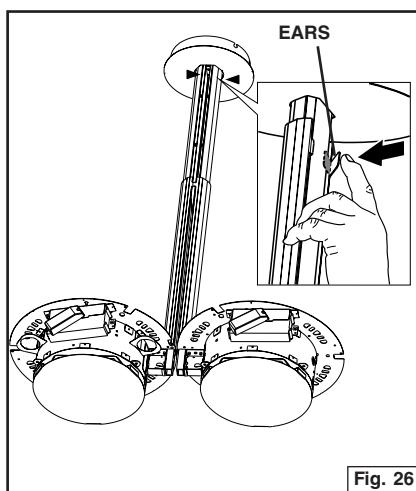

Fig. 26
4. Bend the two ears on the Lower Arm Cover over the Upper Arm Cover. Repeat for the other cover. Fig. 26.